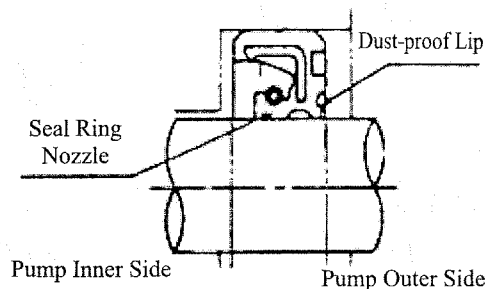

Fig 8-16
(4) Examination of Oil Seal
a) Oil Seal 14: (Refer to Figs 8-18 and 8-19) Oil seal 14 is a combination seal, and the lip at inner side of the pump shaft plays the sealing function, while the lip at the outer side is mainly for dust resistance (as in Fig 8-16). It is mainly required to examine whether or not crack, wear, or distortion exists with oil seal, and it is also required to examine whether or not the elasticity of rubber is enough, and it shall be replaced once it is out of order.